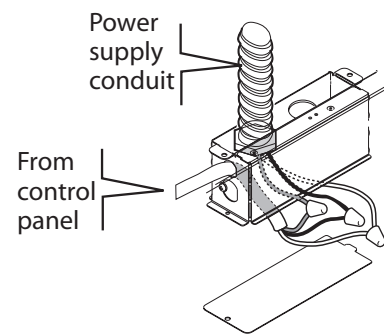

FIG. 11
2. Remove the j-box cover as shown in Figure 11.